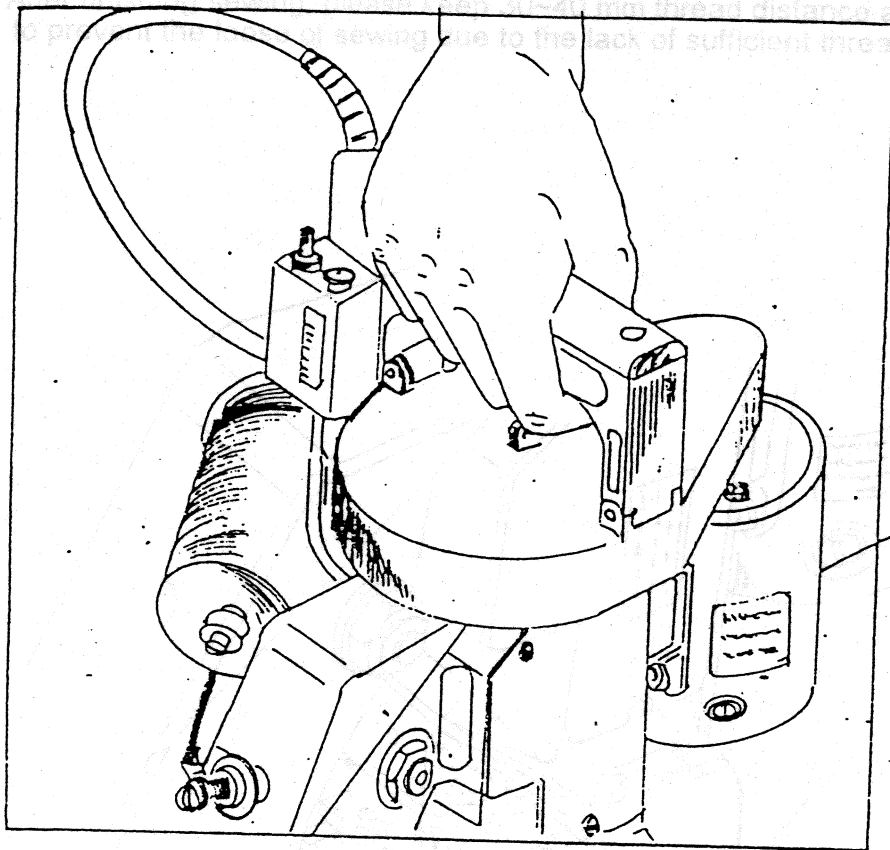

Fig. 04
10. Operation of Machine : ( See also Fig. 04 & Fig. 01 )
10. Operation of machine. ( See also Fig. 04 & Fig. 04-1 )